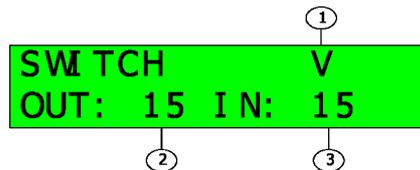

Figure 4: I/O menu
- c) Select output channel: Troll the ENTER button to move the cursor to ②, and press the I/O or ENTER button, then the output channel symbol “16” blinks. Troll the ENTER button to set the output channel to be “15”, and press the I/O or ENTER button to confirmed the output channel, then the LED displays as the following figure 4.